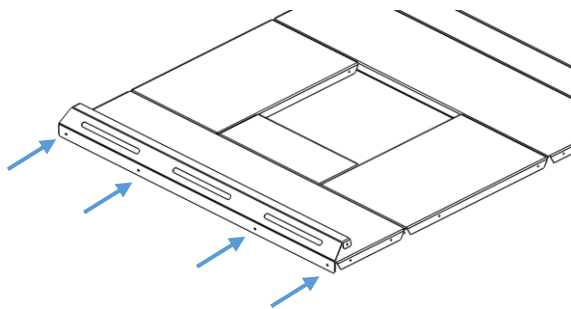

Figure 11: Back Panel Assembly
6. Position the panels so the flat surface is now exposed (face up). Install the Back Panel onto the rear of the rack using the #10-32 x 3/8" bolts as shown in Figure 11.